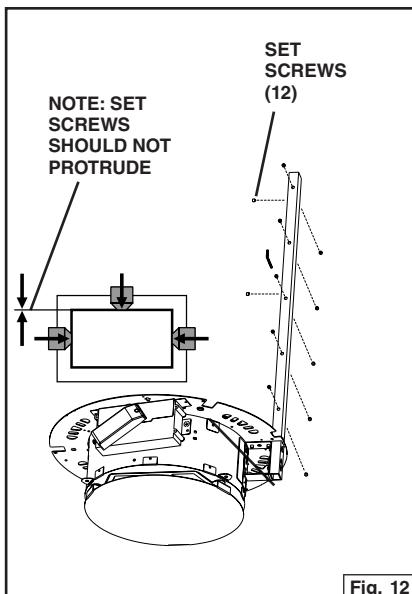

Fig. 12
4. Insert 12 set screws into each lower support arm. Make sure the screws do not protrude into the inner section of the arm. Fig. 12.